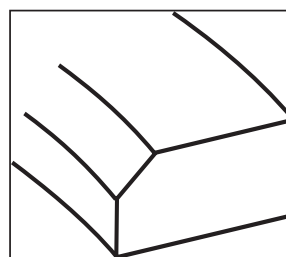

Figure 1
- 7- If ring has no dot but does have inside diameter bevel, bevel goes to top of piston. **See Figure 1** below.